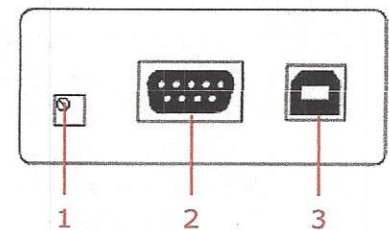

Figure 5—Right End
Figure 5 shows a schematic of the right end of the box. This contains the zero adjustment potentiometer (1), the serial connector (2) and the USB connector (3).